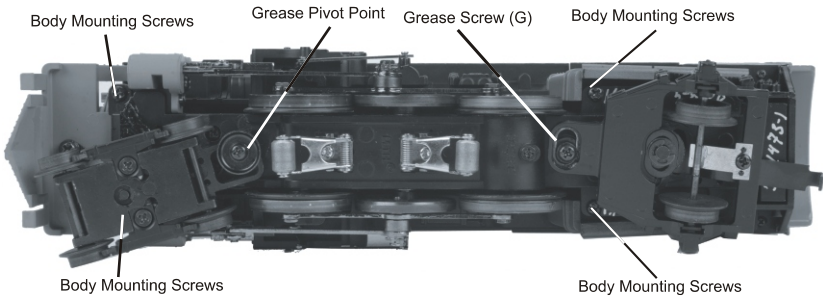
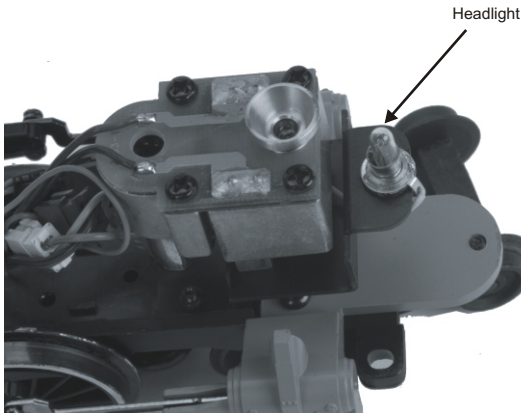

Figure 6. Removing the Body and Lubricating the Grease Points
Figure 8
You should also grease the leading and trailing locomotive truck tongues to enhance their ability to slide on the chassis. Follow the grease points shown on Fig. 6.
1. To replace the headlight in this model you will need to follow the disassembly instructions for greasing the engine in Figure 6 on pg. 13. Once the boiler has been removed you can access the headlight(see figure 8).
If you experience poor or no smoke output when the smoke unit is on and has fluid, check the wick to see if it has become hard, blackened, and unabsorbent around the heating element. To remove the smoke unit you will first have to remove the boiler shell (by removing the body mounting screws shown in Fig 6 on pg. 13). To do this, follow these instructions: